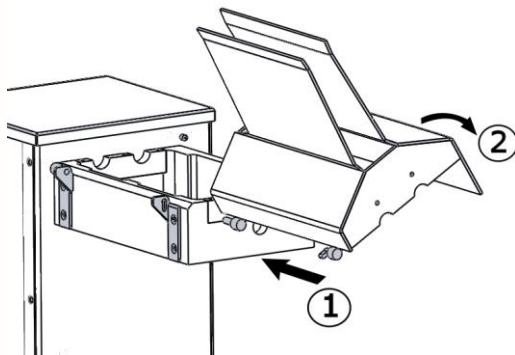

Fig 1D. Cover installation in blade support
2. Push softly the lid to the right until lid bolts touch the hinges. Turn down the lid and make sure the button lock secure the lid. (See Fig. 1D)